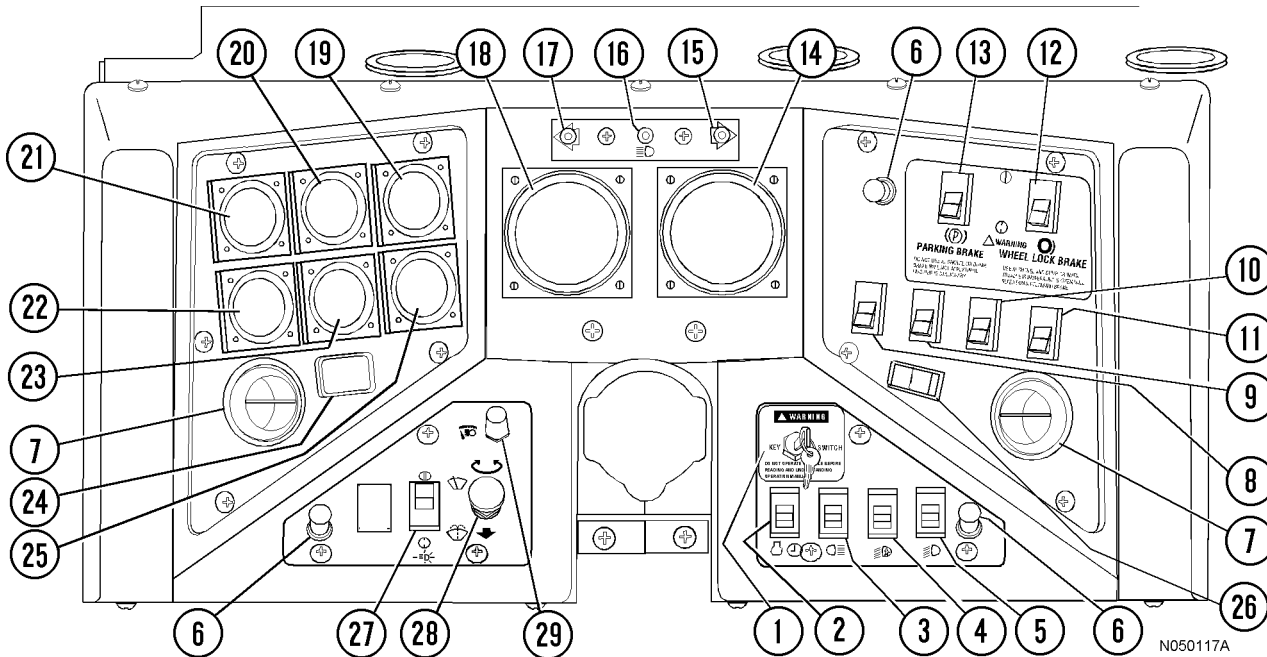

FIGURE 32-7. PANEL GAUGES, INDICATORS, AND CONTROLS
(Figure 32-7)
PANEL GAUGES, INDICATORS, AND CONTROLS (Figure 32-7)
Key switch (1, Figure 32-7) is a three position (OFF, RUN, START) switch.
2. After engine has started, place rest switch in OFF position (de-activate the "rest" mode of operation). Refer to discussion of rest switch (26, Figure 32-7).
The timer delayed, engine shutdown switch (2, Figure 32-7) is a 3-position, rocker type switch with OFF, ON and MOMENTARY positions. When used, the engine is allowed to idle for approximately 5 minutes before actual shutdown occurs. The delayed shutdown feature allows the engine to cool down slowly, reducing internal temperatures as coolant is circulated through the engine.
Fog lights (5, Figure 32-7) are optional equipment that are useful in foggy conditions and heavy rain. Pressing the top of the rocker switch turns the lights on. Pressing the bottom of the switch turns the lights off.
Ladder light switch (4, Figure 32-7) turns the ladder lights on or off after or before using ladder. Pressing the top of the rocker switch turns the lights on. Pressing the bottom of the switch turns the lights off. Another switch is mounted at the front left of truck near the base of ladder.
Manual backup switch (3, Figure 32-7) allows backup lights to be turned on for added visibility and safety when the selector switch (see Operator Controls) is not in REVERSE position. When the switch is in the ON position, the manual back up light indicator (B4, overhead panel, Figure 32-8) will be illuminated.
Panel illumination lights (6, Figure 32-7) provide illumination for the instrument panel. Brightness is controlled by the panel light dimmer switch (28).
Cab/air conditioner vents (7, Figure 32-7) are spherically mounted and may be directed by the operator to provide the most comfortable cabin air flow.
(8, Figure 32-7) Not Used
The optional rotating beacon light is activated by rocker-type switch (9, Figure 32-7) when it is switched to the ON position.
The optional heated mirror is activated by this rocker-type switch (10, Figure 32-7) when it is switched to the ON position.
(11, Figure 32-7) Not Used
Wheel brake lock control (12, Figure 32-7) should be used with engine running for dumping and loading operations only. The brake lock switch actuates the hydraulic brake system which locks the **rear wheel service brakes only**. When pulling into shovel or dump area, stop the truck using the foot-operated service brake pedal. When truck is completely stopped and in loading position, apply the brake lock by pressing the rocker switch toward the ON symbol. To release, press the rocker switch toward the OFF symbol.
The parking brake is spring applied and hydraulically released. It is designed to hold a stationary truck when the engine is shutdown and keyswitch is turned OFF. The truck must be completely stopped before applying the parking brake, or damage may occur to parking brake. To apply the parking brake, press parking brake control switch (13, Figure 32-7) toward the ON symbol. To release the parking brake, press the switch toward the OFF symbol. When the keyswitch is ON and parking brake switch is applied, the parking brake indicator light (A3, overhead panel, Figure 5-8) will be illuminated.
Tachometer (14, Figure 32-7) registers engine crankshaft speed in hundreds of revolutions per minute (rpm).
Indicator (15, Figure 32-7) illuminates to indicate the right turn signals are operating when the turn signal lever on the steering column is moved upward. Moving the lever to its center position will turn indicator off.
High beam indicator (16, Figure 32-7) when lit, indicates that the truck headlights are on high beam. To switch headlights to high beam, push the turn indicator lever away from steering wheel. For low beam, pull lever toward the steering wheel.
Indicator (17, Figure 32-7) illuminates to indicate the left turn signals are operating when the turn signal lever on the steering column is moved downward. Moving the lever to its center position will turn indicator off.
Speedometer/payload meter display (18, Figure 32-7) indicates the truck speed in miles per hour (mph), or in kilometers per hour (kph). The display also shows payload meter information. For more information, see Section 6 - Optional Equipment, in the service manual.